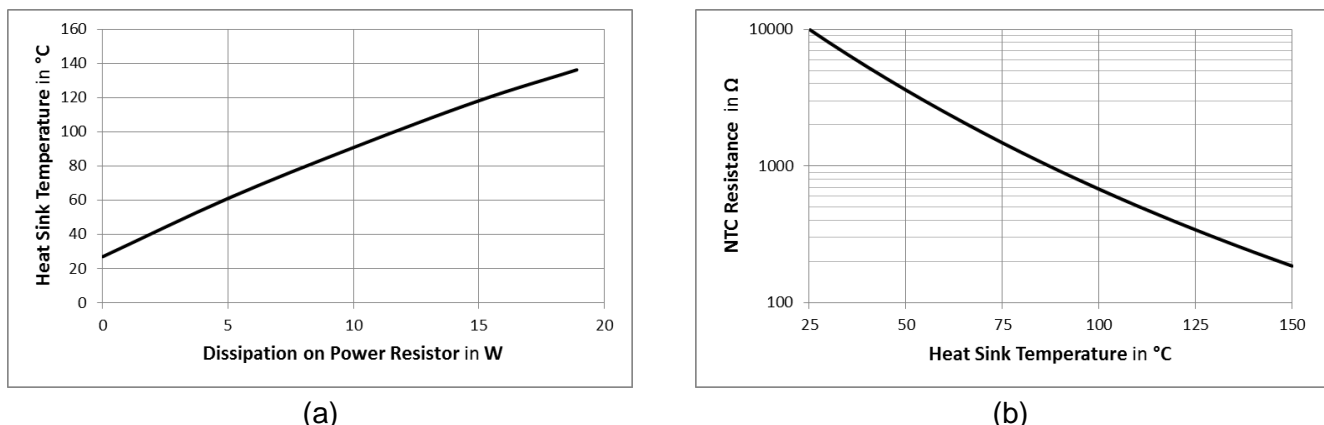

Figure 8 Characteristics for temperature adjustments: (a) heat sink temperature as a function of power, (b) NTC value as a function of the heat sink temperature
3. Use the power supply to adjust the heat sink temperature. A rough guide is provided by Figure 8.a.
4. Monitor the actual temperature value using the ohmmeter and the NTC characteristic in Figure 8.b.